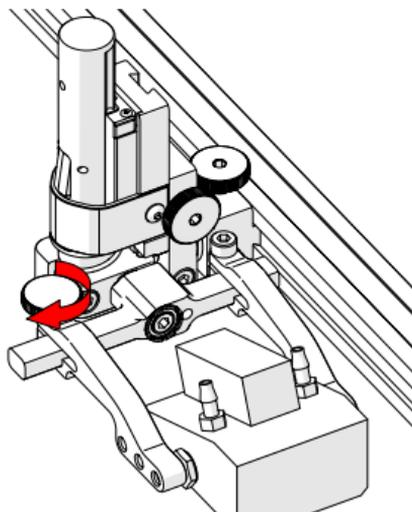

Fig. 69 - Tighten arm knob
6. Tighten the probe holder arm adjustment knob (Fig. 69).